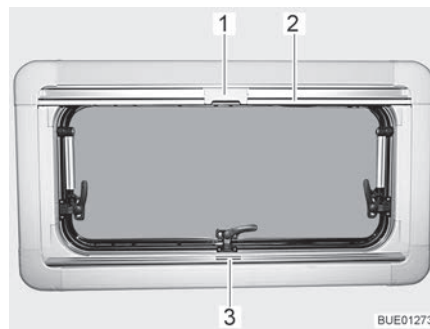
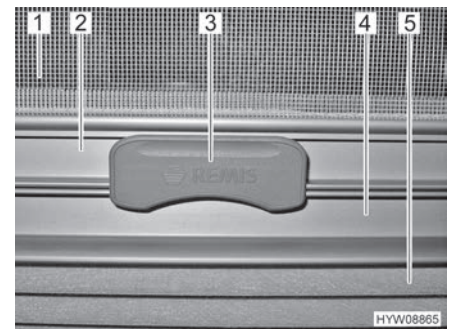

Fig. 15 Hinged window
Fig. 16 Catch
Roman shade The Roman shade (Fig. 16,5) is located in the lower blind box.
- Seize the Roman shade by the centre of the holding bar (Fig. 15,3 and Fig. 16,4), pull it from the bottom to the top and release it at the desired height. The Roman shade will stay at this height.
Insect screen The insect screen (Fig. 16,1) is located in the upper blind box.
- Pull the insect screen down by the holding bar (Fig. 15,2 and Fig. 16,2), until it touches the holding bar of the Roman shade (Fig. 16,4).
- Clip the catch (Fig. 15,1 and Fig. 16,3) on the insect screen into the holding bar of the Roman shade. When the catch is locked, the Roman shade and the insect screen can be adjusted together.
- Push the catch (Fig. 16,3) on the insect screen upward.
- Move the insect screen back slowly on the holding bar (Fig. 15,2).